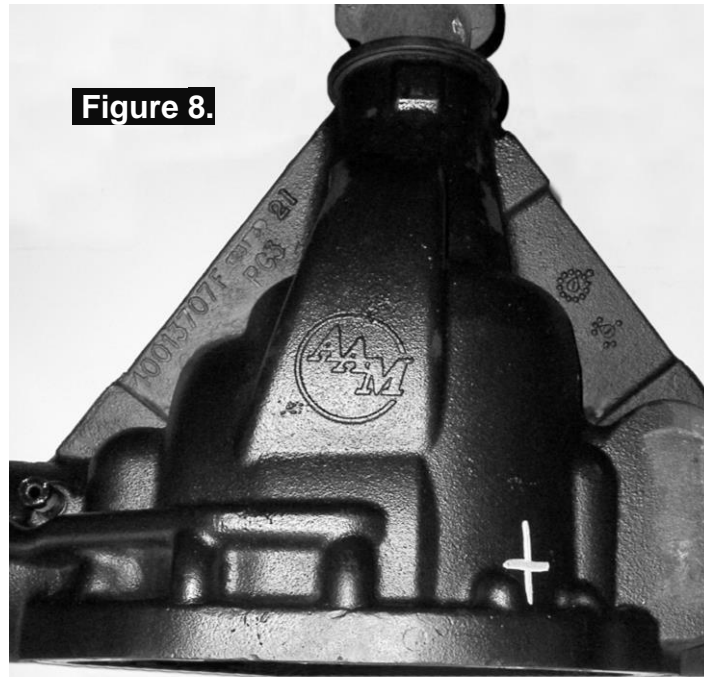

Figure 7.
**NOTE :** When viewed from inside the housing the bulkhead port position must be as shown in Figure 7.